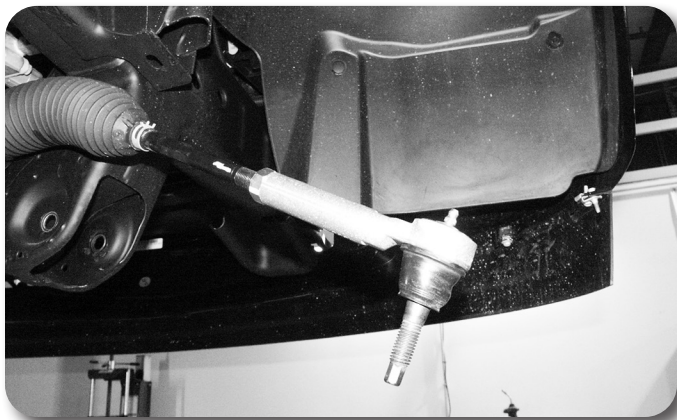
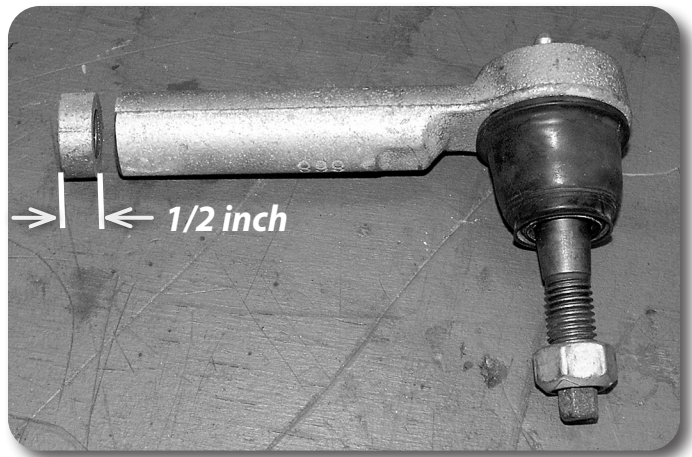

Figure 24
Figure 25A
47. Working on one side at a time, remove the tie rod end from the steering link **Figure 24**. Trim 1/2" off of both the tie rod end and the steering link **Figure 25A & B**. This will allow for proper alignment adjustment once the kit is complete. Once the two pieces are trimmed, clean the ends of the threads and reinstall the tie rod end on the steering link. Repeat on other side of the vehicle.